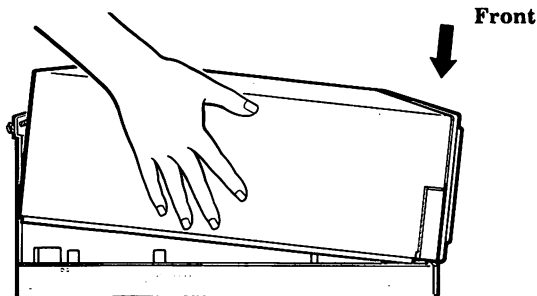

Figure 2-5. Replacing the top cover.
- Lower the front of the cover into place. Press in on the sides of the cover as you lower them into place, making sure the cover edges fit inside the processor frame. See Fig. 2-5.